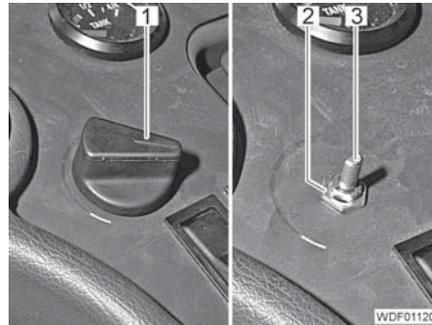
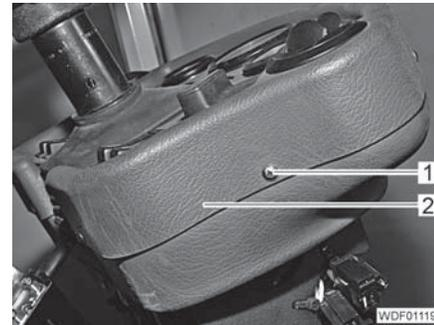

Fig. 456 Knob of the temperature sensor
Fig. 457 Instrument panel attachment
- Pull off the knob (Fig. 456,1) of the temperature sensor.
- Unscrew the nut (Fig. 456,2).
- Unscrew the 6 screws (Fig. 457,1).
- Carefully lift up the instrument panel (Fig. 457,2) until the fuel tank gauge is accessible.
- Carefully position the instrument panel (Fig. 457,2) so that the operating part (Fig. 456,3) protrudes through the hole.
- Screw in and tighten the 6 screws (Fig. 457,1).
- Screw the nut (Fig. 456,2) onto the operating part (Fig. 456,3) and tighten it hand-tight.
- Fit the knob (Fig. 456,1) onto the operating part.